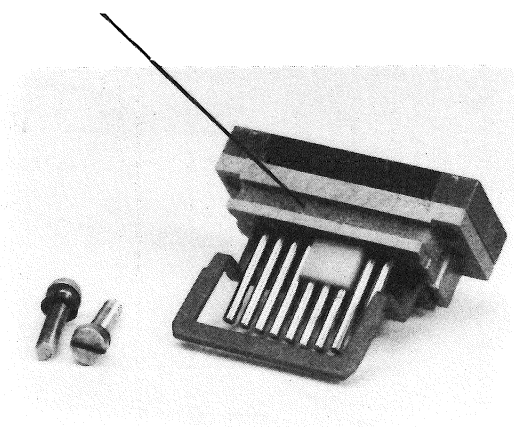

Fig. 5.5a Lubrication
- c) Lubricate the foam rubber lubrication pad on the die block (Fig. 5.5a).